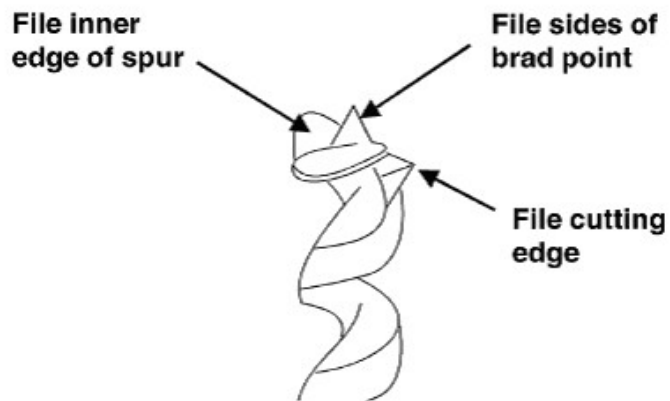

FIGURE 7
1. Sharpen the bit by using a small, smooth file, *following the original shape of the bit*. File the inside edge of the spur, the sides of the brad point, and the cutting-edge inwards toward the flute of the bit. See Figure 7.